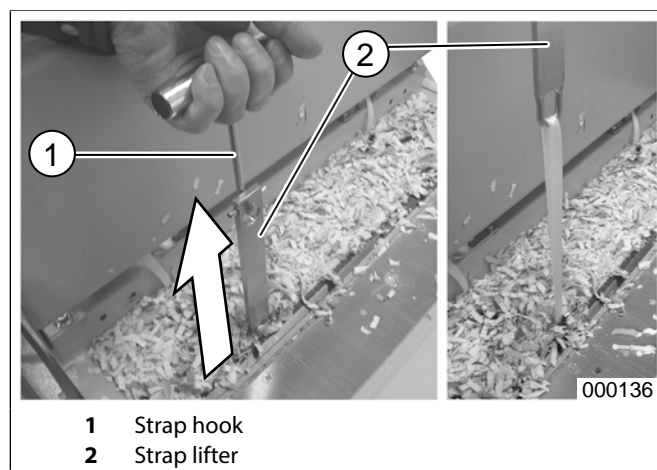

fig. 15 Strap lifters
3. Pull the straps to approximately 40 cm above the baling ram with the help of the strap lifters (fig. 15/2) and the included strap hook.